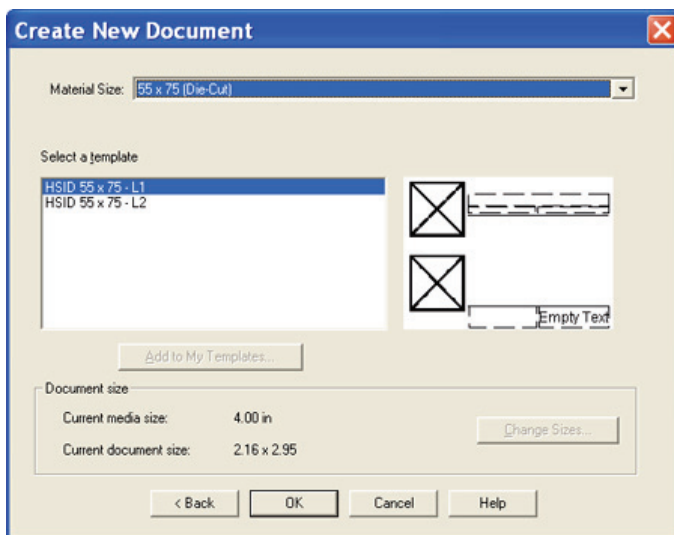

Figure 3-1. Create New Document
2. Select the **Printer** and click **OK**. The *Create New Document* dialog box displays (Figure 3-1).